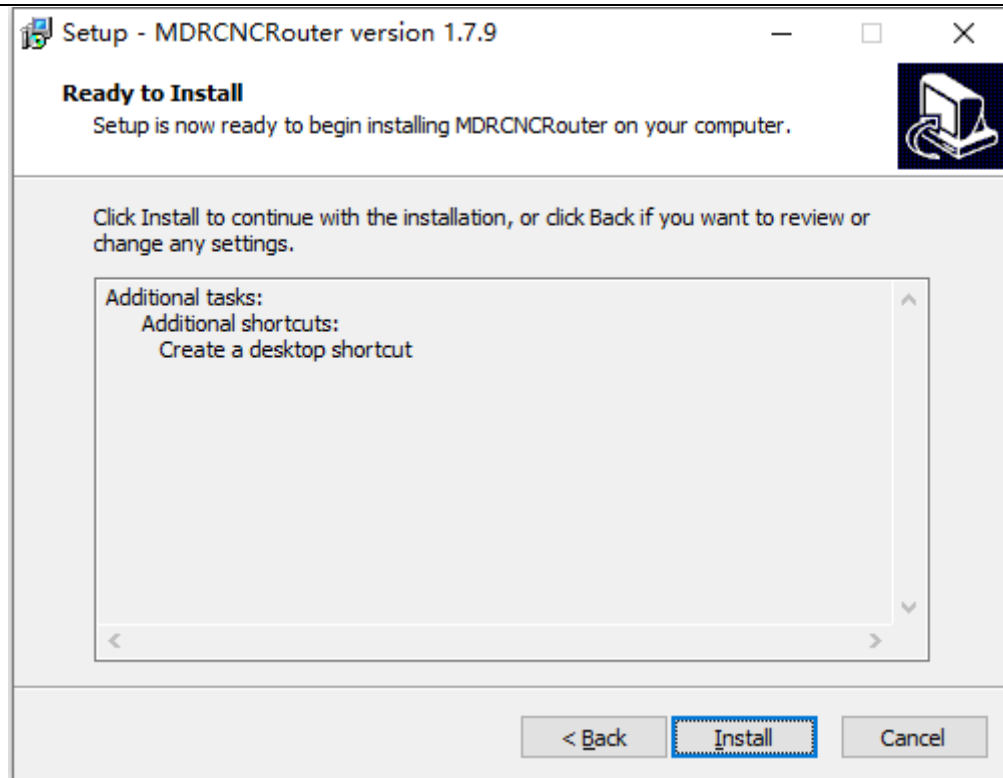

Figure 2.2-4
(6) Click Next, the program is ready to install, and a dialog box pops up, as shown in Figure 2.2-4: